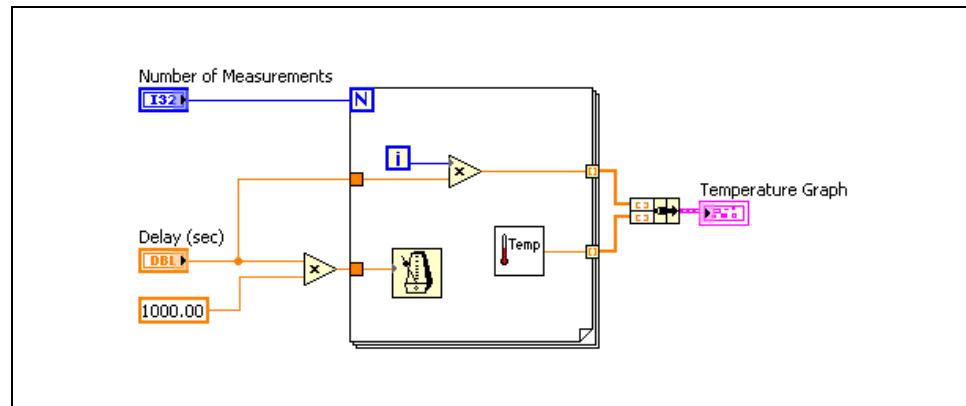

Figure 2-28. Using Temperature VI Block Diagram
- Move the cursor to the middle left resizing node until the cursor changes to a double arrow, as shown in Figure 2-28.
Figure 2-28 shows an example of the block diagram as it appears after your modifications. You move the Number of Measurements terminal and wire the terminal to the count terminal of the For Loop.
- Click and drag at the terminal to the new location as shown in Figure 2-28.
11. Change the value of the Delay (sec) control to something greater than zero (0).